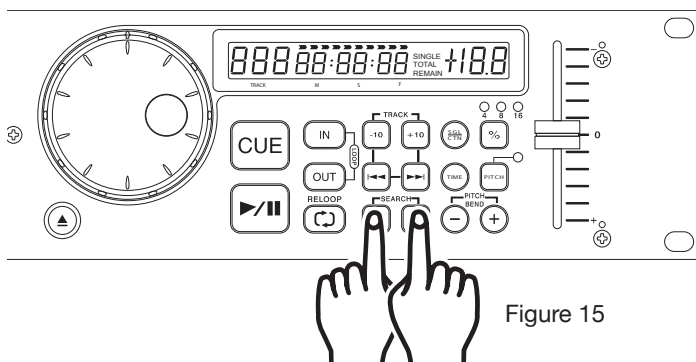

Figure 15
11. CHANGING THE TIME DISPLAY (29, 30, & 31)/TIME BAR (24):
The time may be displayed in three different modes; Total Remain, Remain, and Elapsed. During normal playback, pressing the *TIME BUTTON* (11) as in figure 15, will change the time display information (29, 30, & 31) in the LCD. The following is a break down of the time settings and their definitions:
- 1) TOTAL REMAIN (27) - This details the time in the LCD (29, 30, & 31) as the current cds' total remaining time.
- 2) REMAIN (28) - This details the time in the LCD (29, 30, & 31) as the current tracks' remaining running time.